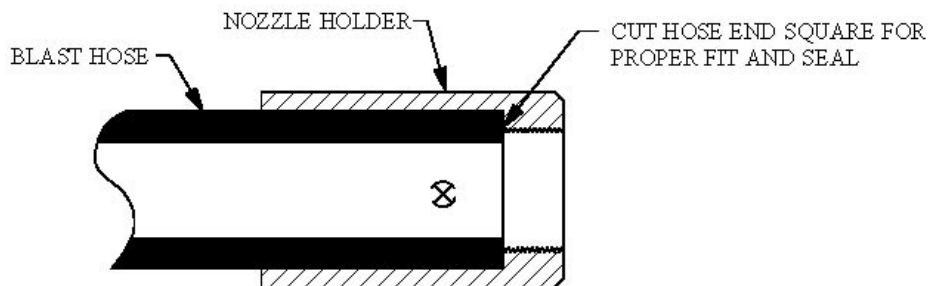

Figure 8.3 – Hose End Fit up
- 8.8. **Blast and Air Hose Gaskets:** All air hose, blast hose, and threaded couplings have gaskets that seal the connection. To protect against loss of air pressure and/or premature abrasive wear replace these gaskets when leaks are found. Inspect the couplings daily for leaks and wear. Replace gaskets when visible wear or leaks are found. When installing or replacing hose couplings, cut the hose end square for secure fit (see Figure 8.3). To ensure proper coupling connection always use fittings that are the same brand. See the drawings and part lists in Section 9.0.